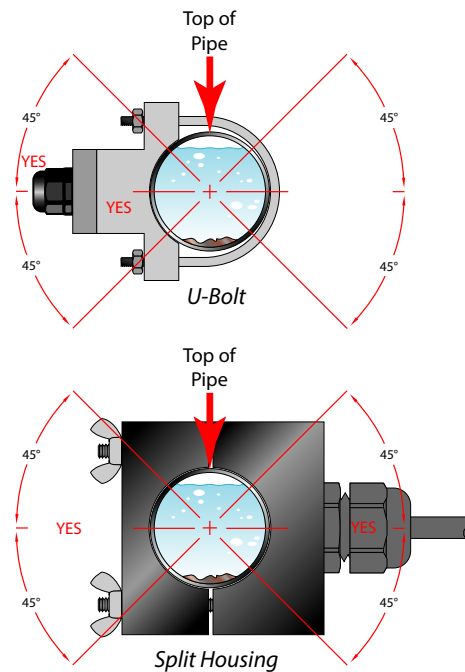

Figure 1: Transducer positioning
3. On horizontal pipes, mount the transducer in an orientation so the cable exits at ± 45 degrees from the side of the pipe. Do not mount with the cable exiting on either the top or bottom of the pipe. See Figure 1 on page 1. On vertical pipes, the orientation does not matter.